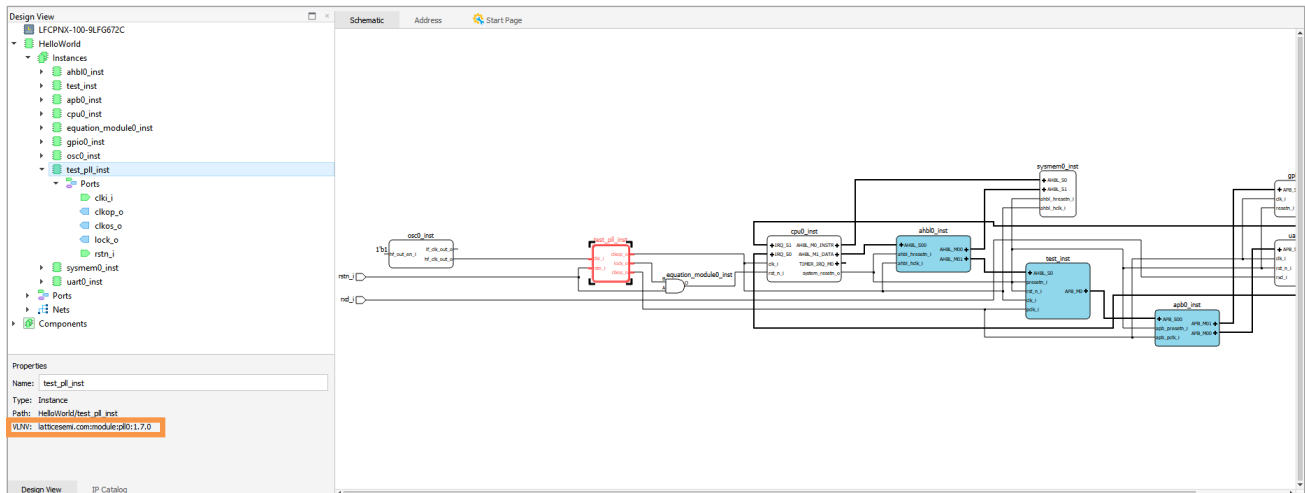
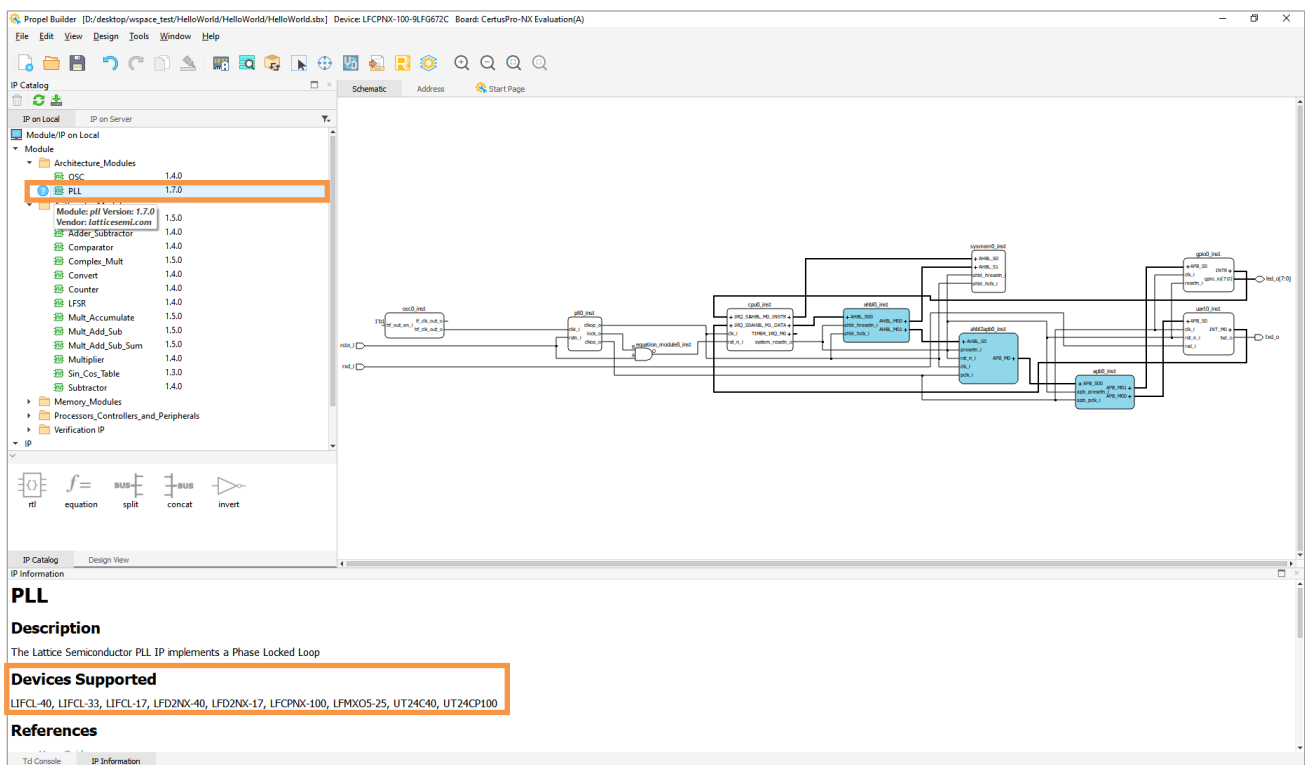

Figure 2.101. Check IP Name in Design View
Figure 2.102. Check Device Supported in IP Information
- Click on IP instance in **Schematic view**, the **Design View** shows the corresponding information of this IP. Check VLNV for this IP name (Figure 2.101). Go to **IP Catalog**, click on  before this IP to show the **IP Information**. In **Device Supported** area, all the devices this IP supports are listed (Figure 2.102). Make